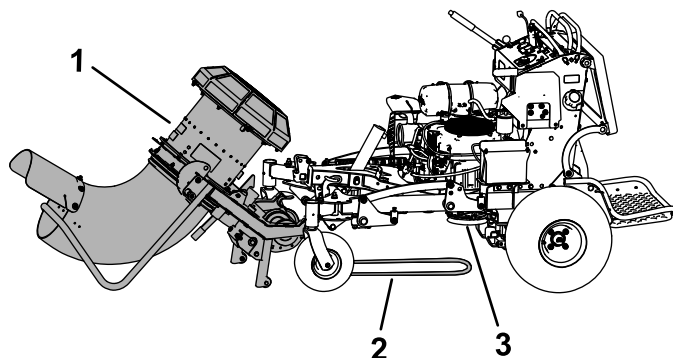

Figure 12
- Move the blower in front of the machine and lay the belt underneath the machine so that it is lined up with the clutch (Figure 12).